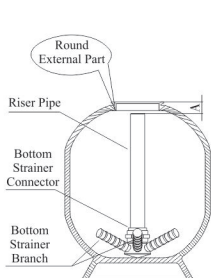

Figure 1-1
- ①The filter should be located closely to drain.
- ②Ensure the unit is installed in enough space for operating and maintenance.
- ③The unit should be kept away from the heater, and not be exposed outdoor. Sunshine or rain will cause the system damage.
- ④Please avoid installing the system in one acid/alkaline, magnetic or strong vibration circumstance, because above factors will cause the system disorder.
- ⑤Do not install the device, drain pipeline in circumstance which temperature may drop below 5℃, or above 50℃.
- ⑥Install the system in the place where with minimum loss in case of water leaking.
①Install control valve
- a. As the Figure 1-1 shows, glue the riser pipe and bottom strainer. Put it into the bottom of the tank, and then assemble the bottom strainer. The size from the mouth of the tank to the surface "A" end of the riser pipe is 42-52mm, and cut off excess riser pipe and round it.